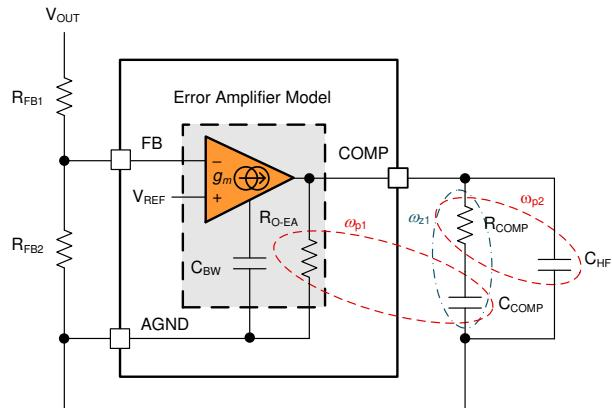

図 9-4. Error Amplifier and Compensation Network
図 9-4 shows a type-II compensator using a transconductance error amplifier (EA). The dominant pole of the EA open-loop gain is set by the EA output resistance, R_{O-EA} , and effective bandwidth-limiting capacitance, C_{BW} , as shown by 式 29.